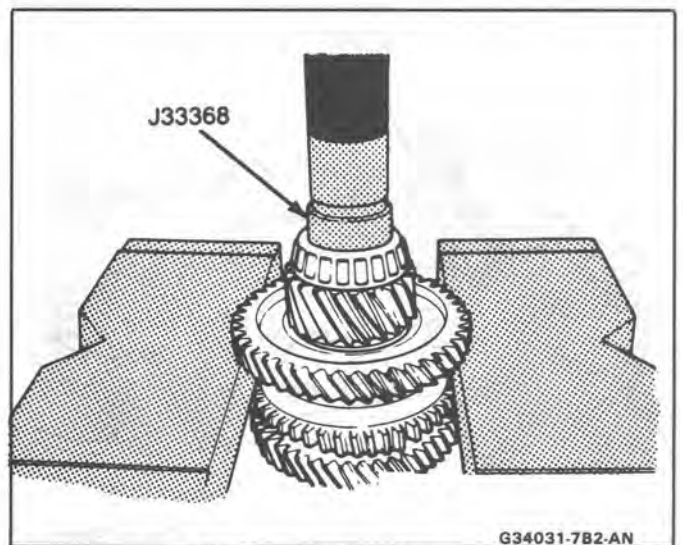

Fig. 32 Front Bearing Output Shaft
5. Press the front bearing on the shaft using J 33368 and a press (Fig. 32).